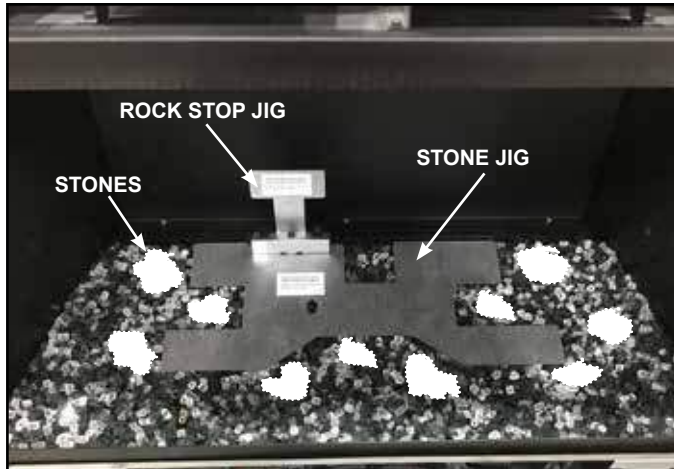

Figure 9.5 Stone Jig in Place with Stones
1. Place stone jig on glass media with "STONE JIG" facing up. Ensure that the stone jig sits flush against the rock stop jig. See Figure 9.5.